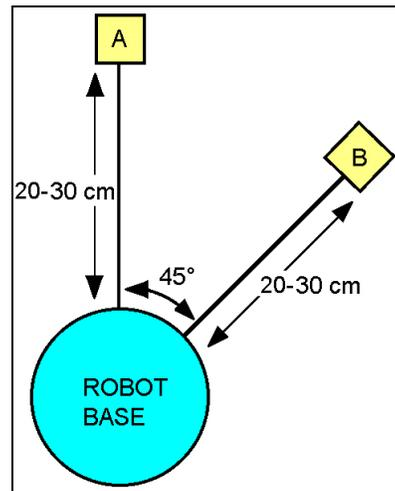

Figure 9-1
- 2 Refer to Figure 9-1 to set up the cell for this activity.